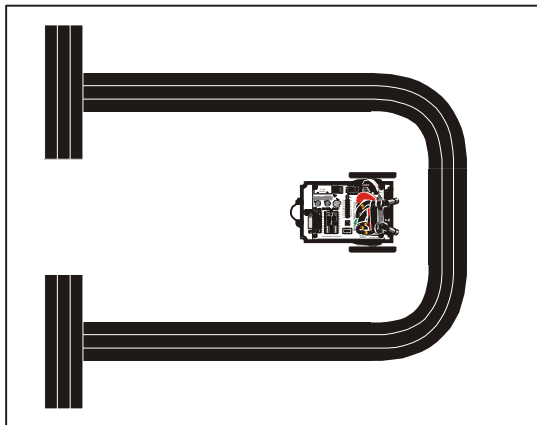
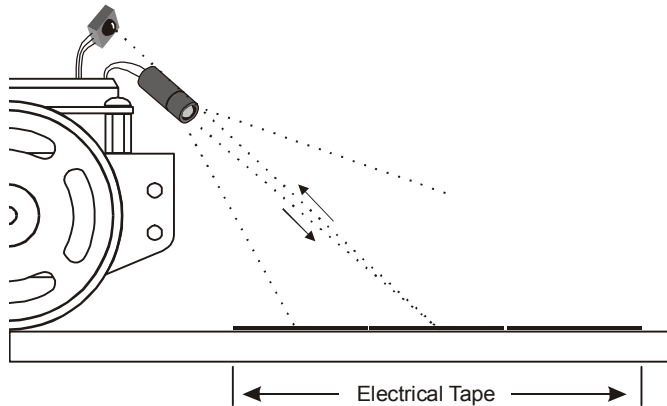

Figure 8-10
Figure 8-11
- ✓ Place your Boe-Bot so that both IR LED/detector pairs are focused directly at the center of your electrical tape stripe (see Figure 8-10 and Figure 8-11).
If you are unable to get a high zone value when the IR detectors are focused on the electrical tape, take a separate piece of paper, and make a stripe that's four strips wide instead of three. If the zone numbers are still low, make sure that you are using 1 k Ω resistors (Brown Black Red) in series with your IR LEDs. If none of this works, try a different brand of black vinyl electrical tape. Adjusting the IR LED/detector so that it is focused closer to or further from the front of the Boe-Bot (see Figure 8-11) may also help.